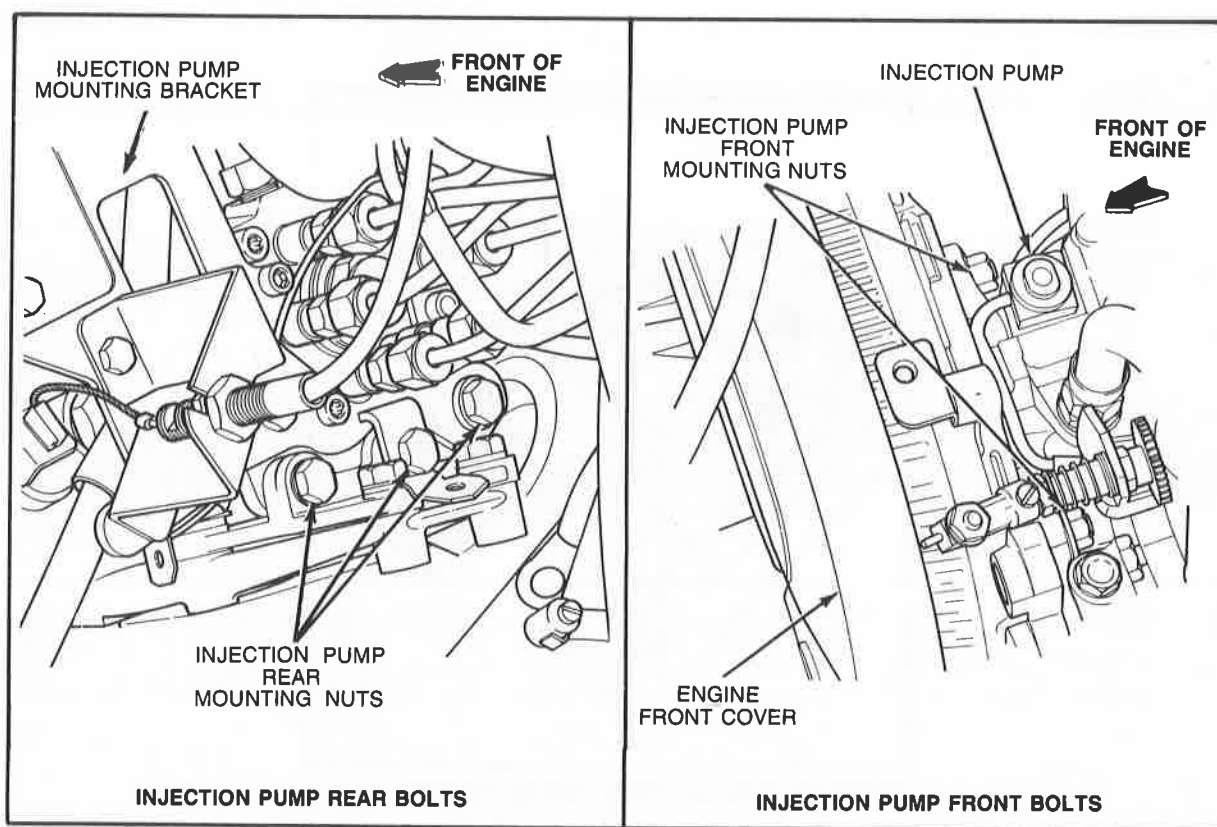

Figure 27 Injection Pump Bolt Tightening Sequence
15. Tighten injection pump mounting bolts to specification in the order shown in Fig. 27.